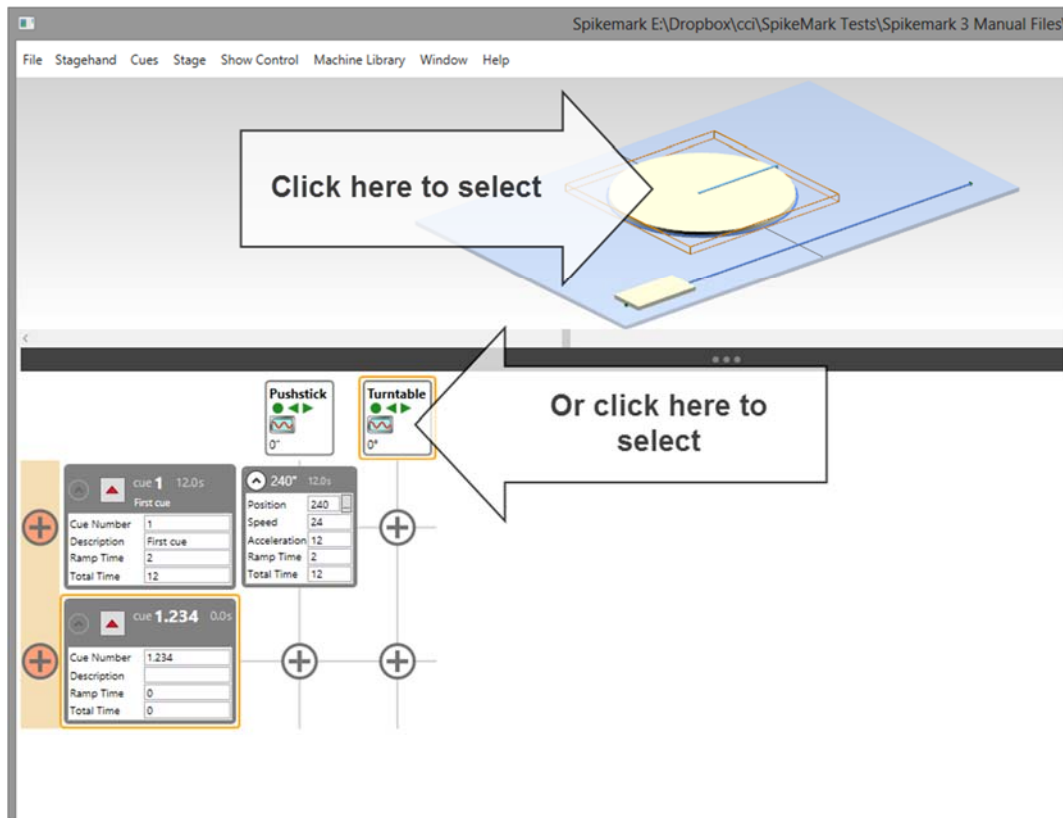

Figure 75
1. Select the machine by clicking on it in either the **Cue Grid** or the **Stage Model Viewer** (Figure 75).